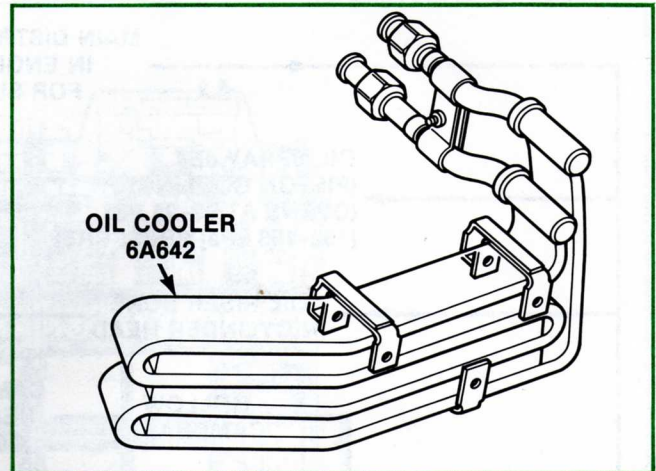

Figure 6. Oil Cooler
- A remote thermostatically controlled oil cooler mounted on the lower right side of the engine compartment in front of the radiator (Fig. 6)